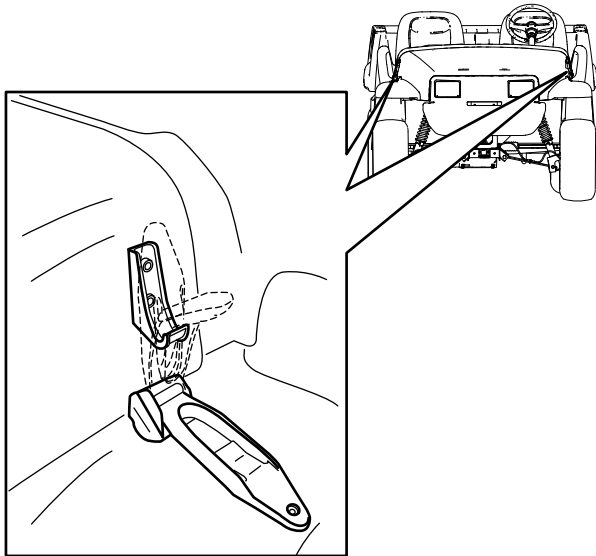

Figure 21
1. Lift up the handle of the rubber latches on each side of the hood (Figure 21).
2. Secure the hood by aligning the rubber latches onto the latch anchors on each side of the hood (Figure 21).